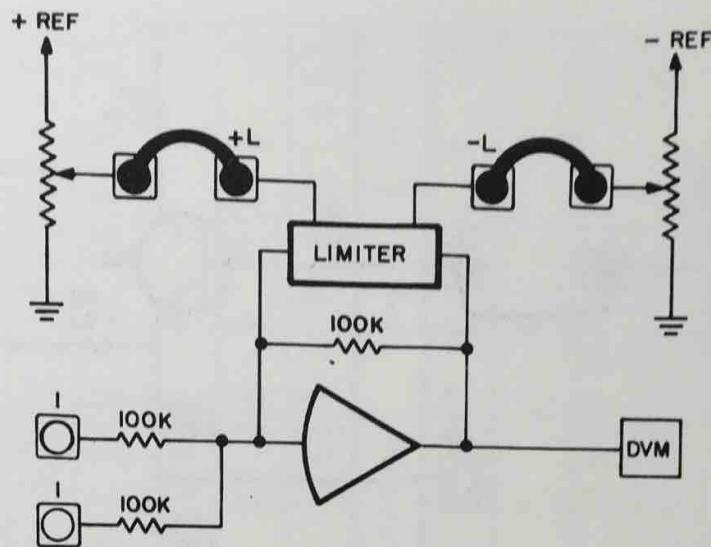

Figure 6.4. Limiter Test Setup
1. Set up the test circuit shown in Figure 6.4.